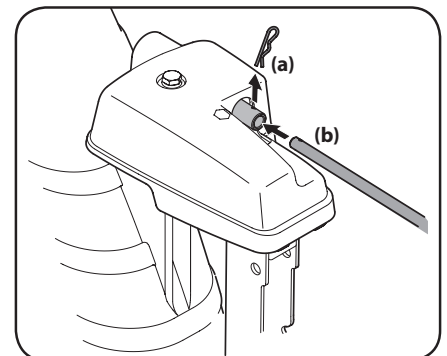

Figure 2-21
5. Remove hairpin clip (a) from rear of chute control head. See Figure 2-21.
6. Insert chute control rod (b) into rear of chute control head. See Figure 2-21. Secure chute control rod to chute control assembly with hairpin clip (a) removed in Step 5.